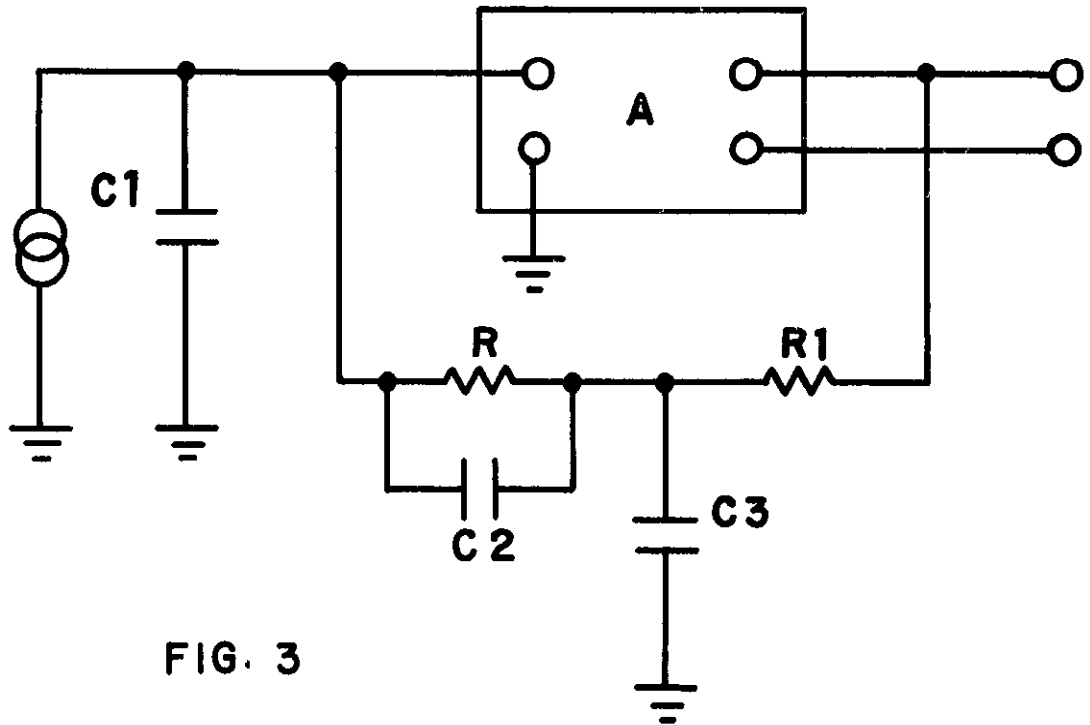

FIG. 3
To accomplish this, refer to Figure 3. R_1 and C_3 have been added to the feedback loop. If $R_1 C_3$ now equals RC_2 , we have a "lead" network cancelling a "lag" network and effectively equation (3) becomes: